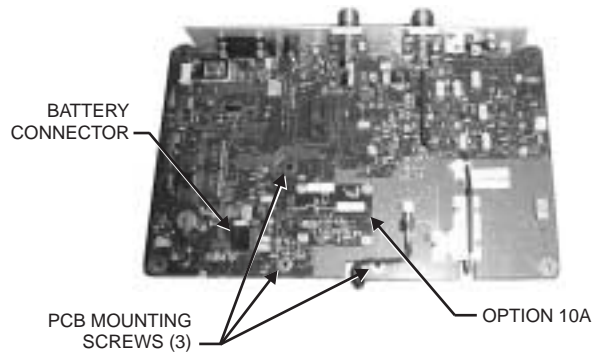

Figure 21. Main PCB
4. If Option 10A is installed (Figure 21) remove the option PCB by gently squeezing the standoff mounts to release the option PCB and disconnect it from the main board. Remove the standoffs and install them on the new main PCB, then install the Option 10A PCB on the new main PCB.